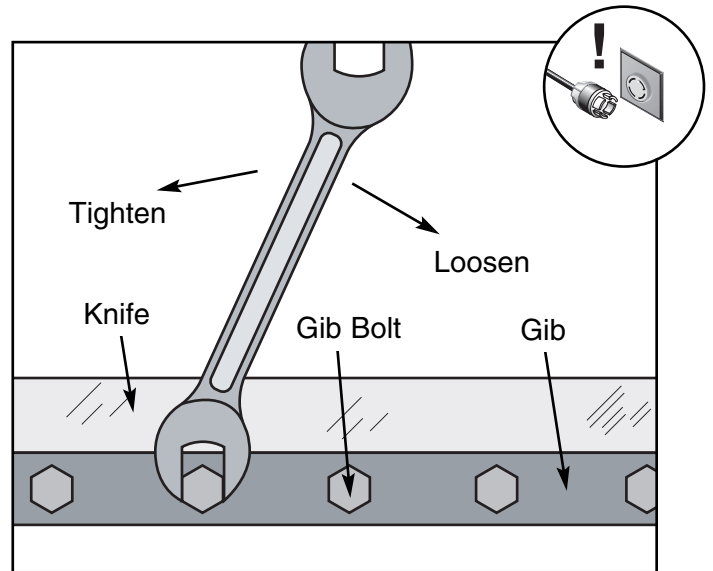

Figure 34. Loosening the gib bolts.
6. Loosen the cutterhead gib bolts, starting in the middle, and alternating back and forth until all of the gib bolts are loose, but not falling out (**Figures 34 and 35**). Note—*The gib bolts turn clockwise to loosen and counterclockwise to tighten (when facing the head of the bolt).*